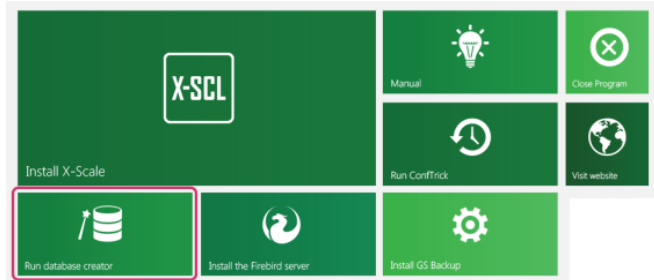

Fig. 18 X-Scale installation panel – launching the database server installer
1. On the computer acting as a database server, insert the installation disc of X-Scale to the DVD/CD drive. After starting, the disc should launch the installation panel as seen on Fig. 18. If the installation panel does not appear, then you must launch "Windows Explorer", go to the CD/DVD drive and launch the "Autostart.exe" file.
1. On the computer acting as a database server, insert the installation disc of X-Scale to the DVD/CD drive. After starting, the disc should launch the installation panel as seen on Fig. 18. If the installation panel does not appear, then you must launch "Windows Explorer", go to the CD/DVD drive and launch the "Autostart.exe" file
1. On the computer acting as a database server, insert the installation disc of X-Scale to the DVD/CD drive. After starting, the disc should launch the installation panel as seen on Fig. 18. If the installation panel does not appear, then you must launch “Windows Explorer”, go to the CD/DVD drive and launch the “Autostart.exe” file